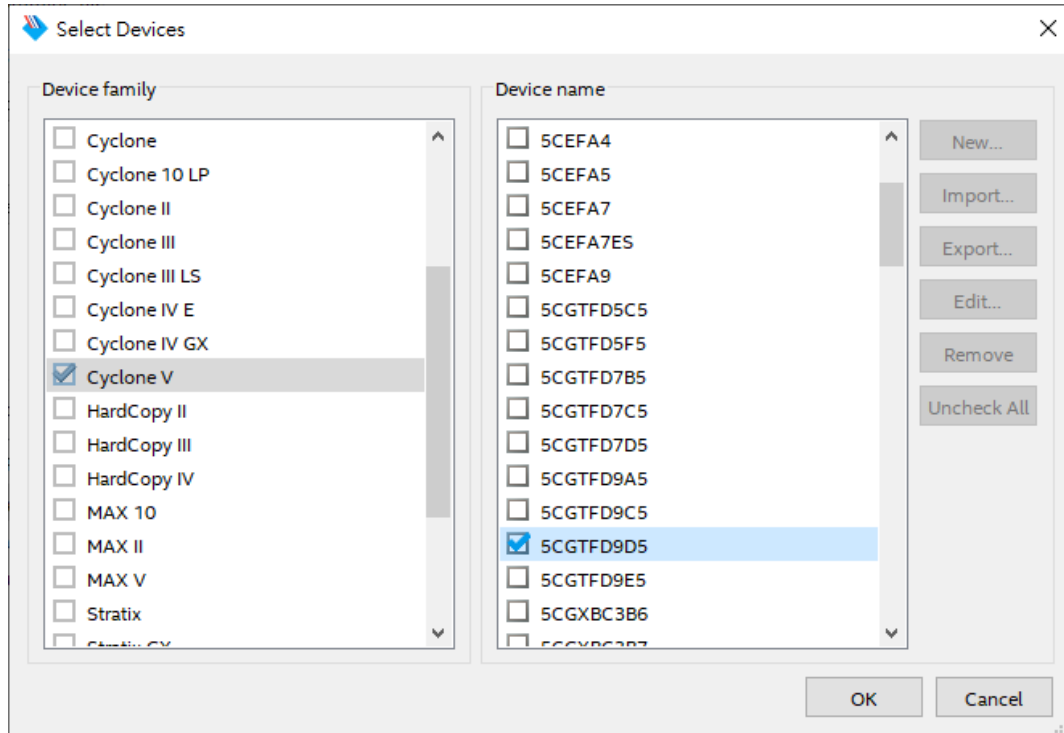
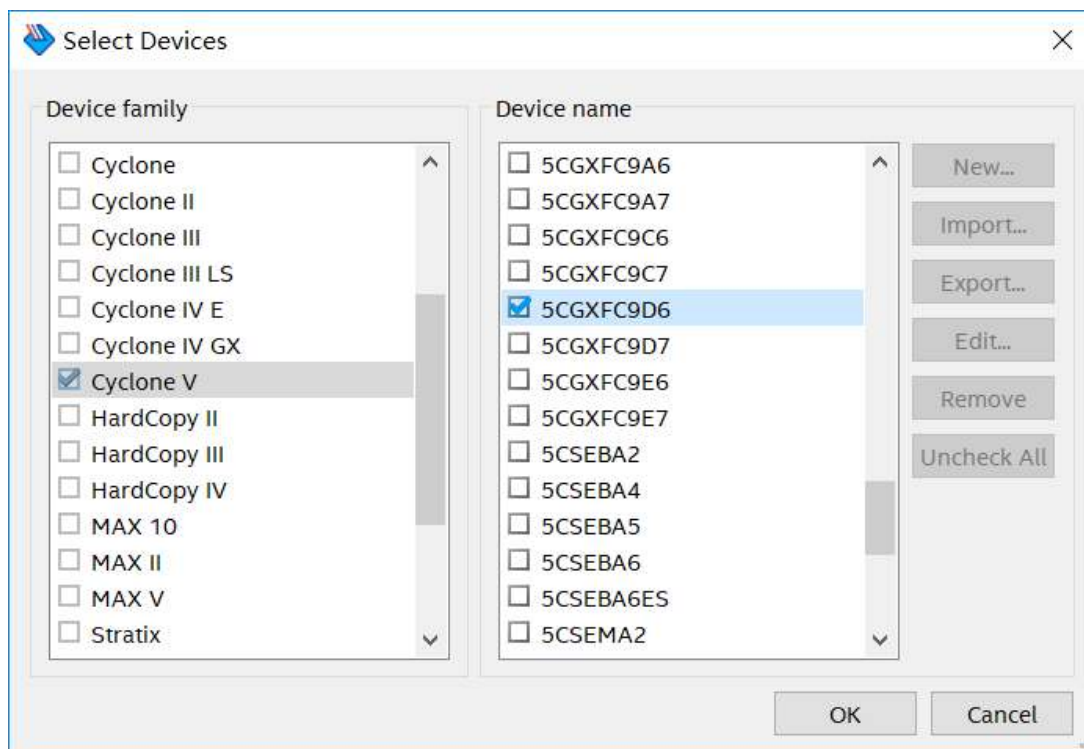

Figure 6-4 Select Devices page
Figure 6-5 Select Devices page for GX device
12. As shown in **Figure 6-4**, choose the same FPGA device to with the SOF Data. **Note that, for GX device FPGA, please refer to Figure 6-5.**